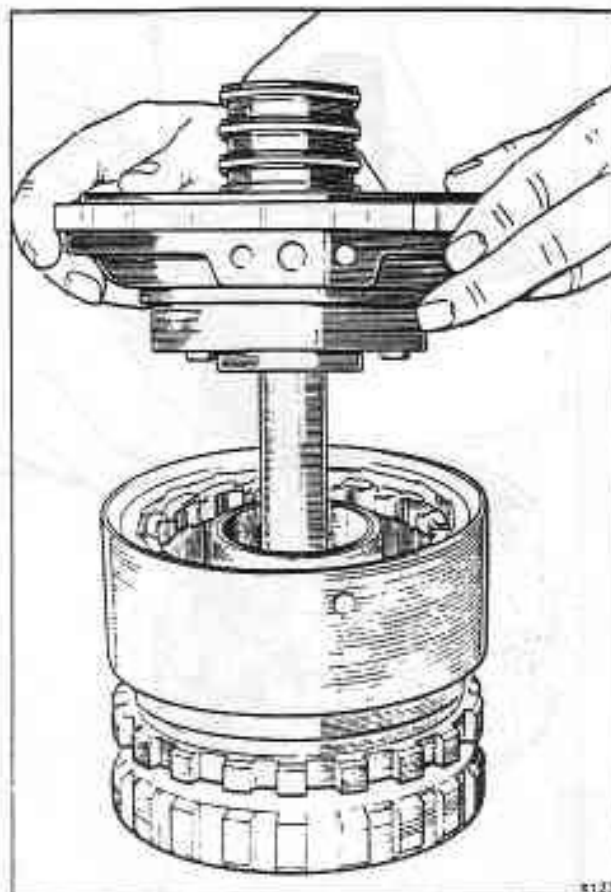

Fig. T19-2 Removing the centre support assembly
17. Remove the centre support assembly from the reaction carrier (see fig. T19-2).